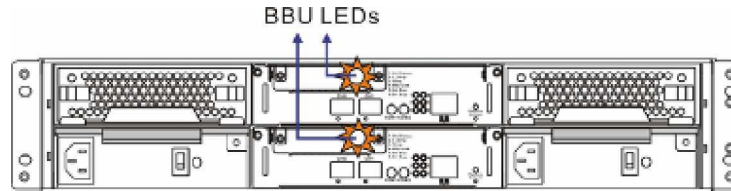

Figure 5-11: BBU LEDs
Step 4. The LED should start flashing to indicate that the BBU is being charged. When the BBU is fully charged, the LED will light amber constantly. (See **Figure 5-11**)